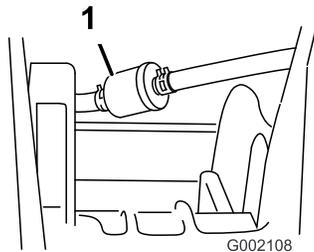

Figure 42
5. Remove the clamps securing the fuel filter to the fuel lines (Figure 42).